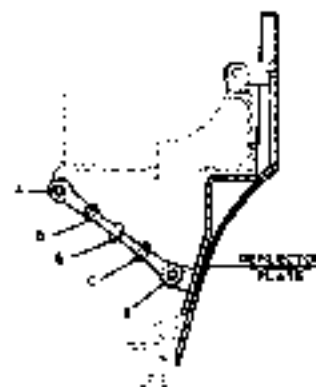

FIGURE I-8
2. Make certain nuts (A) and (B) Figure I-8 are tightened.
3. Loosen lock nuts (D) and (C) (Caution: Nut (D) left-hand thread and nut (C) right-hand thread).
4. Turn nut (E) to obtain .015"-.018" tamper clearance between tamper bars and leading edge of screed.
5. Check clearance after tightening lock nuts (D) and (C) to make certain tamper clearance is still .015-.018".
1. Remove bolt (A), Figure I-8, and push the deflector plate away from the tamper bar.